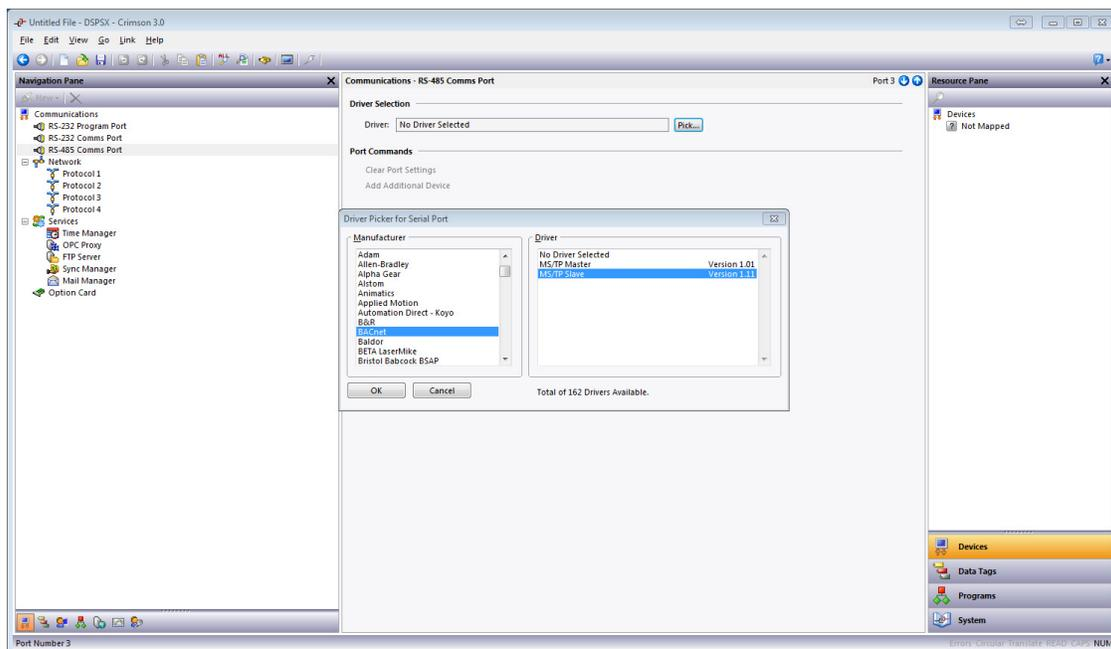

Figure 1.
1. Referring to Figure 1, go to the Navigation Pane and click on the Communications Port to be configured; *RS-485 Comms Port* in this example.